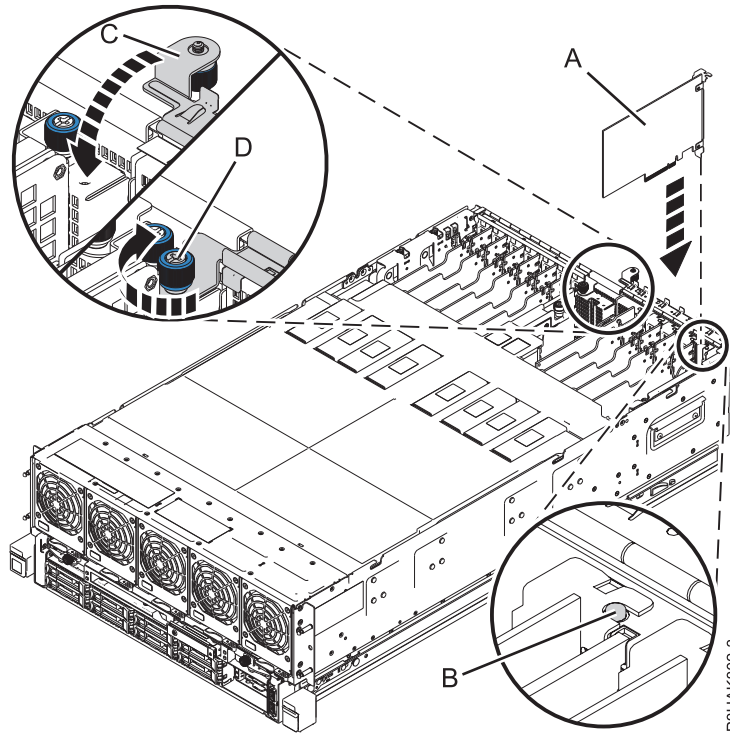

Figure 5. Replacing a PCIe adapter in the 8408-44E or 8408-E8E system
- a. Carefully grasp the adapter (A) by its top edge or tailstock, and align the adapter with the slot and its connector on the system backplane, as shown in Figure 5 on page 8.
- c. Ensure that the tailstock notch engages with the pin on the system's chassis. See (B) in Figure 5 on page 8.
- d. Close the I/O retention bracket (C) by rotating it down and then tighten the captive thumbscrew (D) until it is secured to the system's chassis. See Figure 5 on page 8.